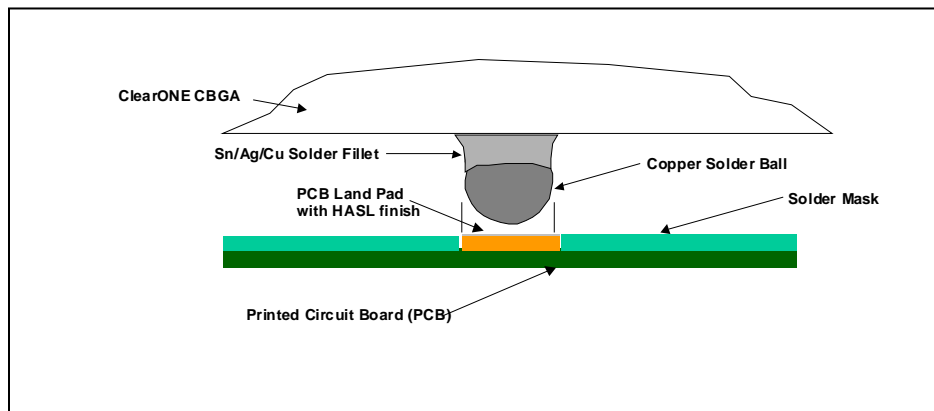

Figure 3. CBGA Solder Ball and PCB Land Pads are equal size
- The shape of the CBGA land pads on the PCB should be round. The diameters of the PCB land pads are recommended to be equal to the nominal CBGA solder ball diameter as provided on the product data sheets, see Figure 3. Tolerance for the CBGA land pad diameter is ± 0.001 inches (± 0.025 mm). The absolute minimum land pad diameter shall be 0.020" and 0.025" for 1.0mm and 1.27mm pitch parts respectively.
- The solder mask surrounding the land pad should not overlap the land pad to ensure maximum thermal cycling reliability, see Figure 3.